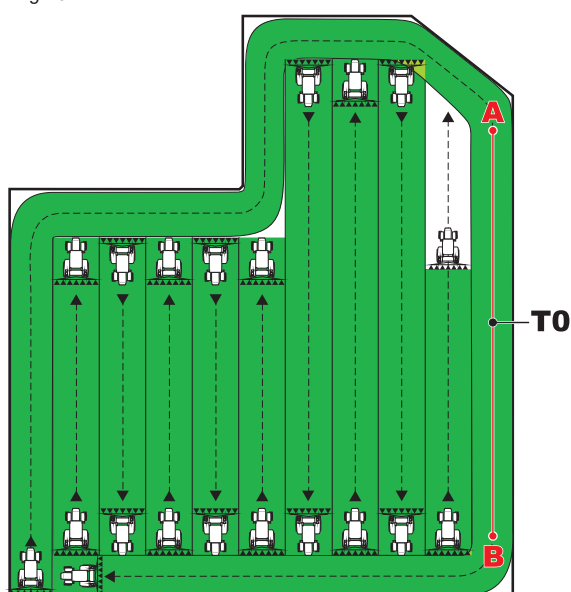

Fig. 103
- Once straight line A/B (**T0**) is tracked, the whole field could be sprayed along tracks parallel to it (Fig. 103), following the reference tracks that will be displayed (Fig. 104).